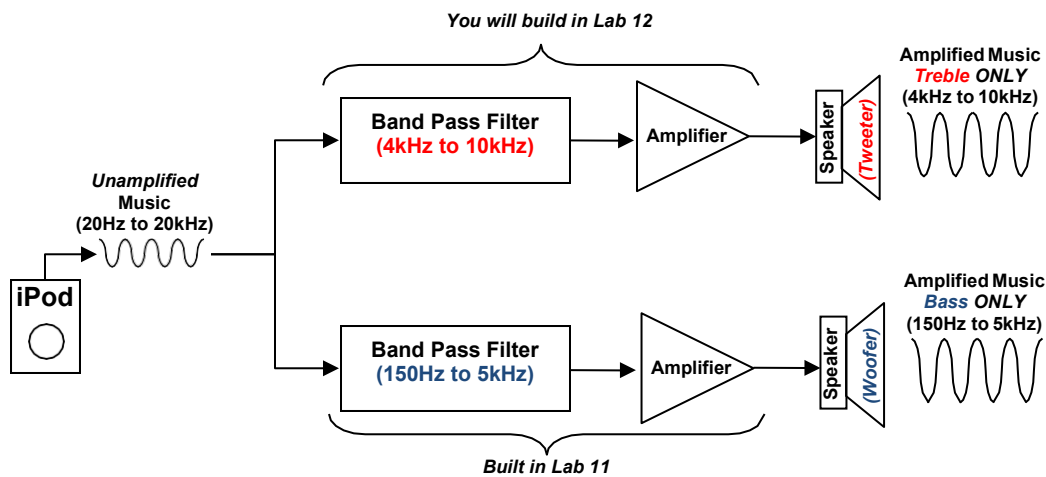

Figure 1 – iPod Docking Station Block Diagram
- Using the procedure discussed in Lab 11, **design** an active band-pass filter for the “treble channel” for the iPod docking station in **Figure 1**. Set the gain in the 3rd stage to be -10 (using an inverting amplifier as the 3rd stage as you did in Lab 11). Set the lower cut-off frequency to be **4kHz** and an upper cutoff frequency of **10kHz**. Use an input voltage of $300\text{mV}_{\text{rms}}$ and a load resistor of value $1\text{k}\Omega$.